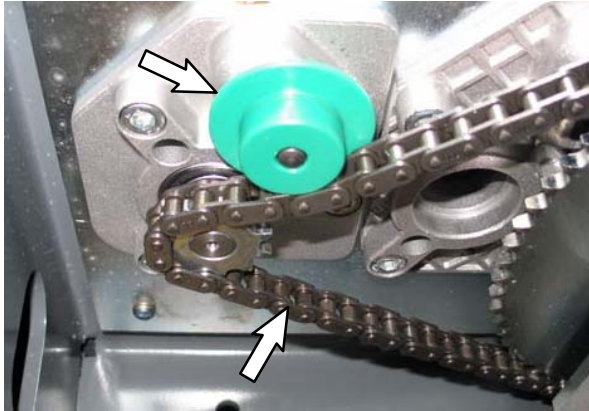
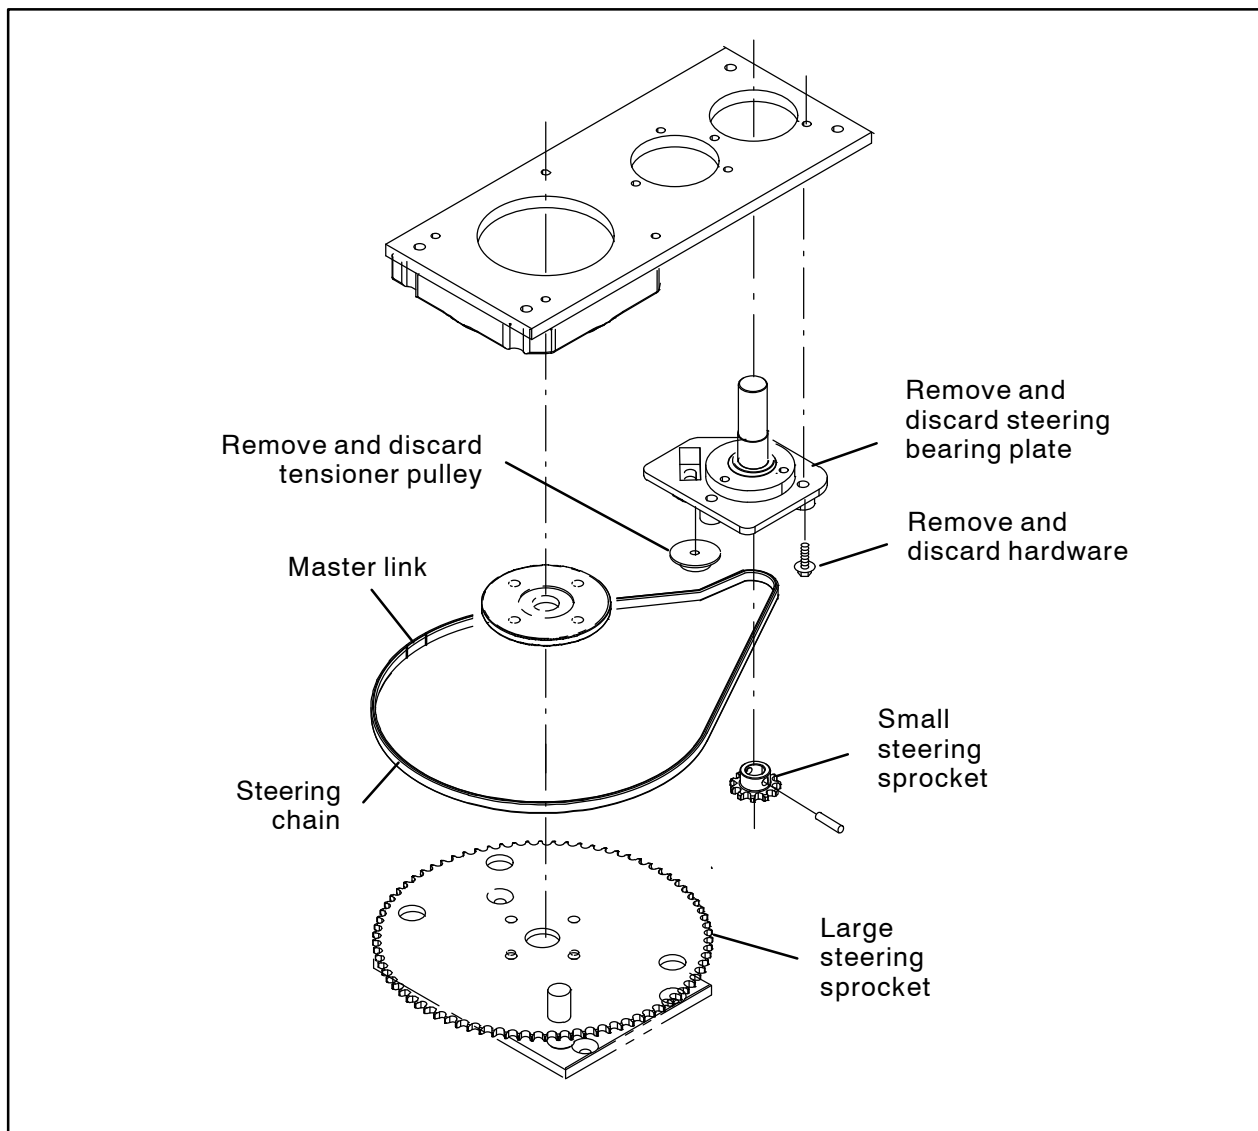

FIG. 17
FIG. 18
19. Remove the chain from the steering sprockets. The tensioner pulley will fall from the steering mechanism when the steering chain is removed. Discard the tensioner pulley. (Fig. 17 / Fig. 18)
20. Remove the steering bearing plate from the machine. Discard the steering bearing plate and hardware. (Fig. 18)